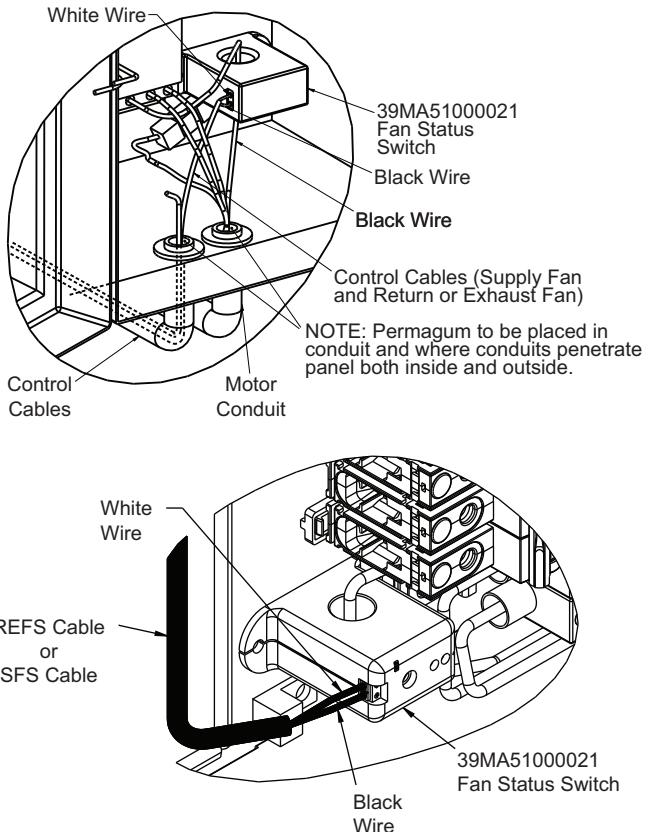

Fig. 19 — Fan Status Switch Installation
2. Loop (1 turn) "Black" wire from conduit assembly running into the starter/disconnect/VFD/bypass/ECM Fan Power Box from the motor through the sensor as shown in Fig. 19.
4. Connect the control wiring to the control connection terminals near the top of the fan status switch as shown in Fig. 19.